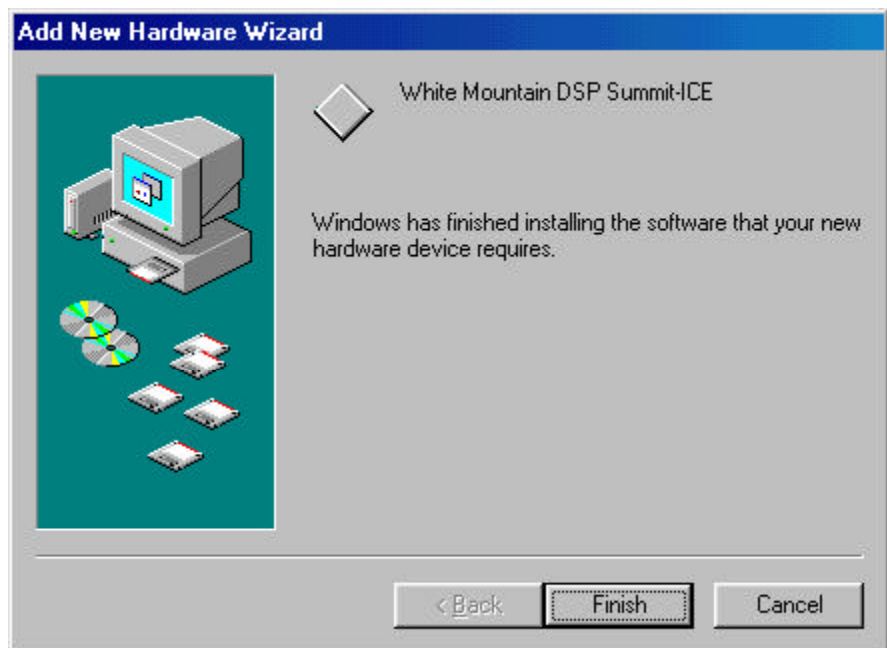

Figure 8. Finish Dialog for Windows 98
6. Click Finish and the driver installation is completed as shown in figure 8.